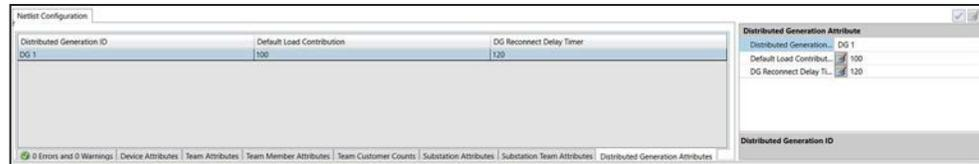

**Figure 79.** The Substation Attributes tab is used for editing source parameters.
**STEP 5.** Click on the **Substation Attributes** tab below the configuration dialog box and the Substation Attribute dialog box will open. Highlight the Substation ID entry for the source to configure. See Figure 79.